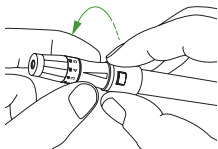

Figure 25
STEP 5: Set the Lancing Level. The adjustable tip offers 5 levels of skin penetration. To select the desired depth, twist the adjustable tip in either direction until the number lines up with the arrow. To select the best depth: 1–2 for soft or thin skin, 3 for average skin, 4–5 for thick or callused skin. See *Figure 25*.